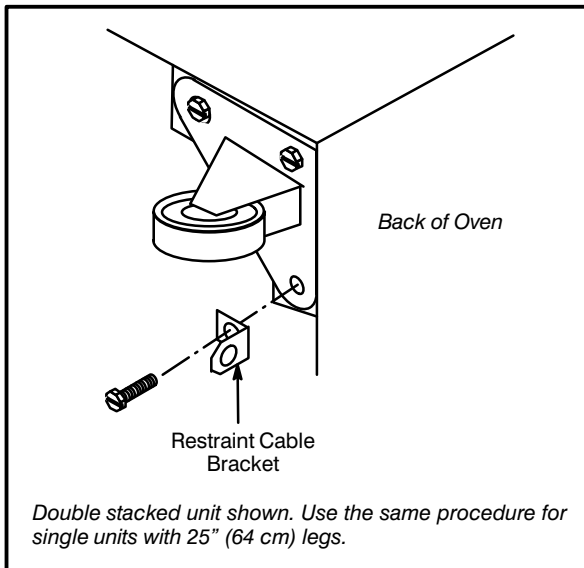

Figure 9
1. Mount the supplied bracket to the leg bolt just below the gas inlet. See Figure 9.